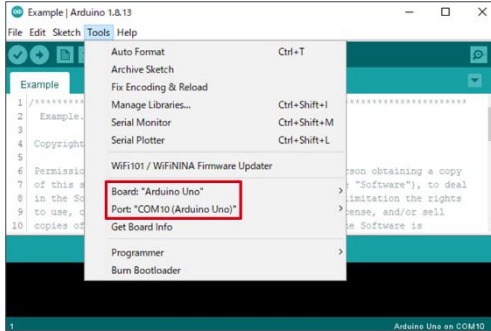

Figure 4. Board and Port Setting
1. Select [Tools]. Set Board to “Arduino Uno” and Port to “COMxx (Arduino Uno)” \*3. (Figure 4)